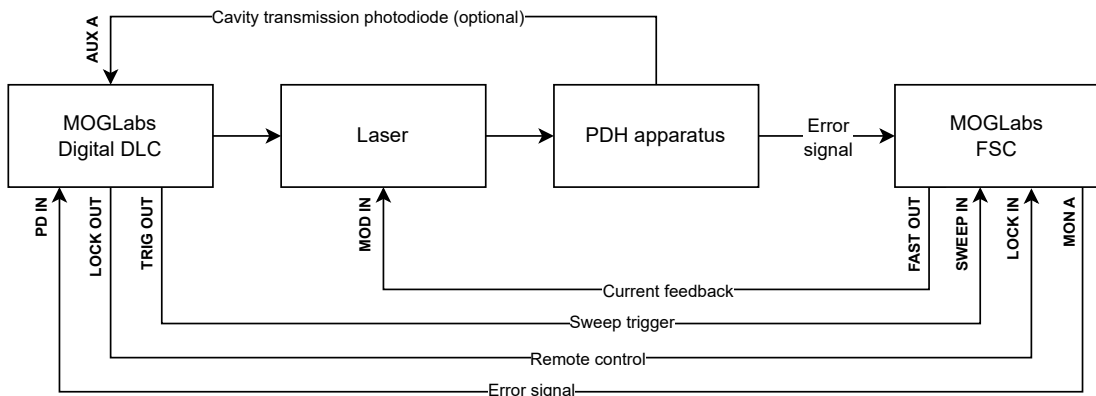

Figure 3.5: Recommended connections for a high-finesse PDH lock with the MOGLabs dDLC and FSC.
1. Connect FAST OUT of the FSC to the SMA connector on the laser headboard (Figure 3.5).